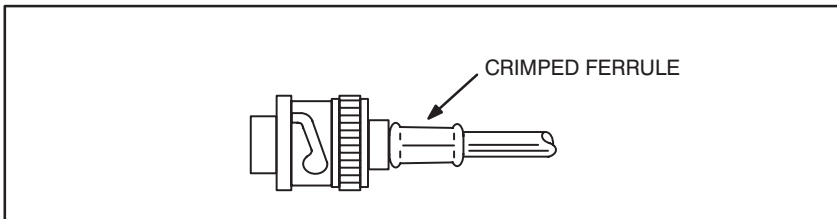

Figure 3.15 - Connector Attached to RG-59/U Cable
- Step 11. Remove the crimped assembly from the crimping dies. The connector is now attached to the coaxial cable. See figure 3.15.